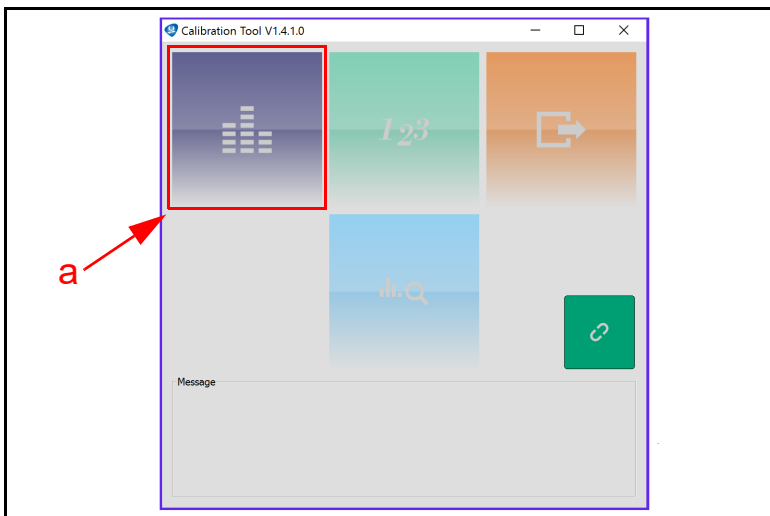

Figure 8 DBV-500 S Calibration Tool
7. Confirm that the DBV-500 S Calibration Tool is running, as shown in Figure 8.
8. Click the Sensor Calibration function screen button (Figure 8 a).